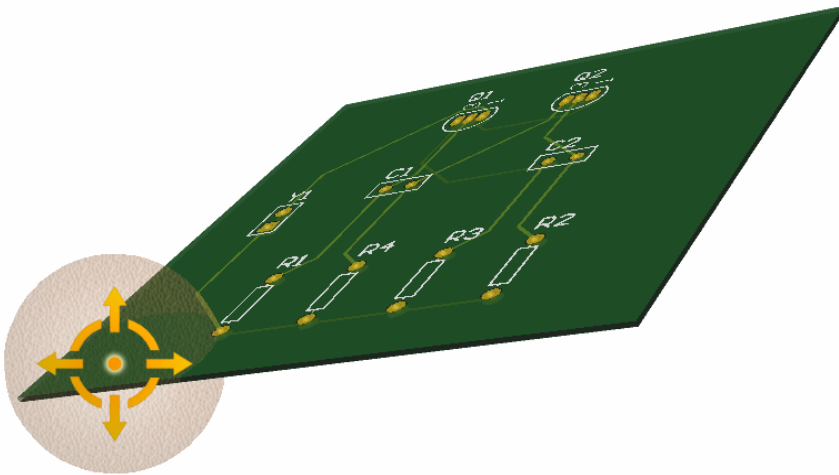

Figure 11. The 3D view rotation sphere.
- **Rotation** - Hold down **SHIFT** to enter 3D rotation mode. This is represented on screen as a directional sphere at the cursor position (Figure 11). Rotational movement of the model is made about the center of the sphere using the following controls: